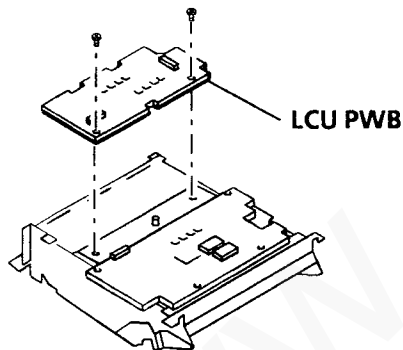

Figure 1. LCU PWB
5. Remove two screws (Figure 1) retaining the LCU PWB.